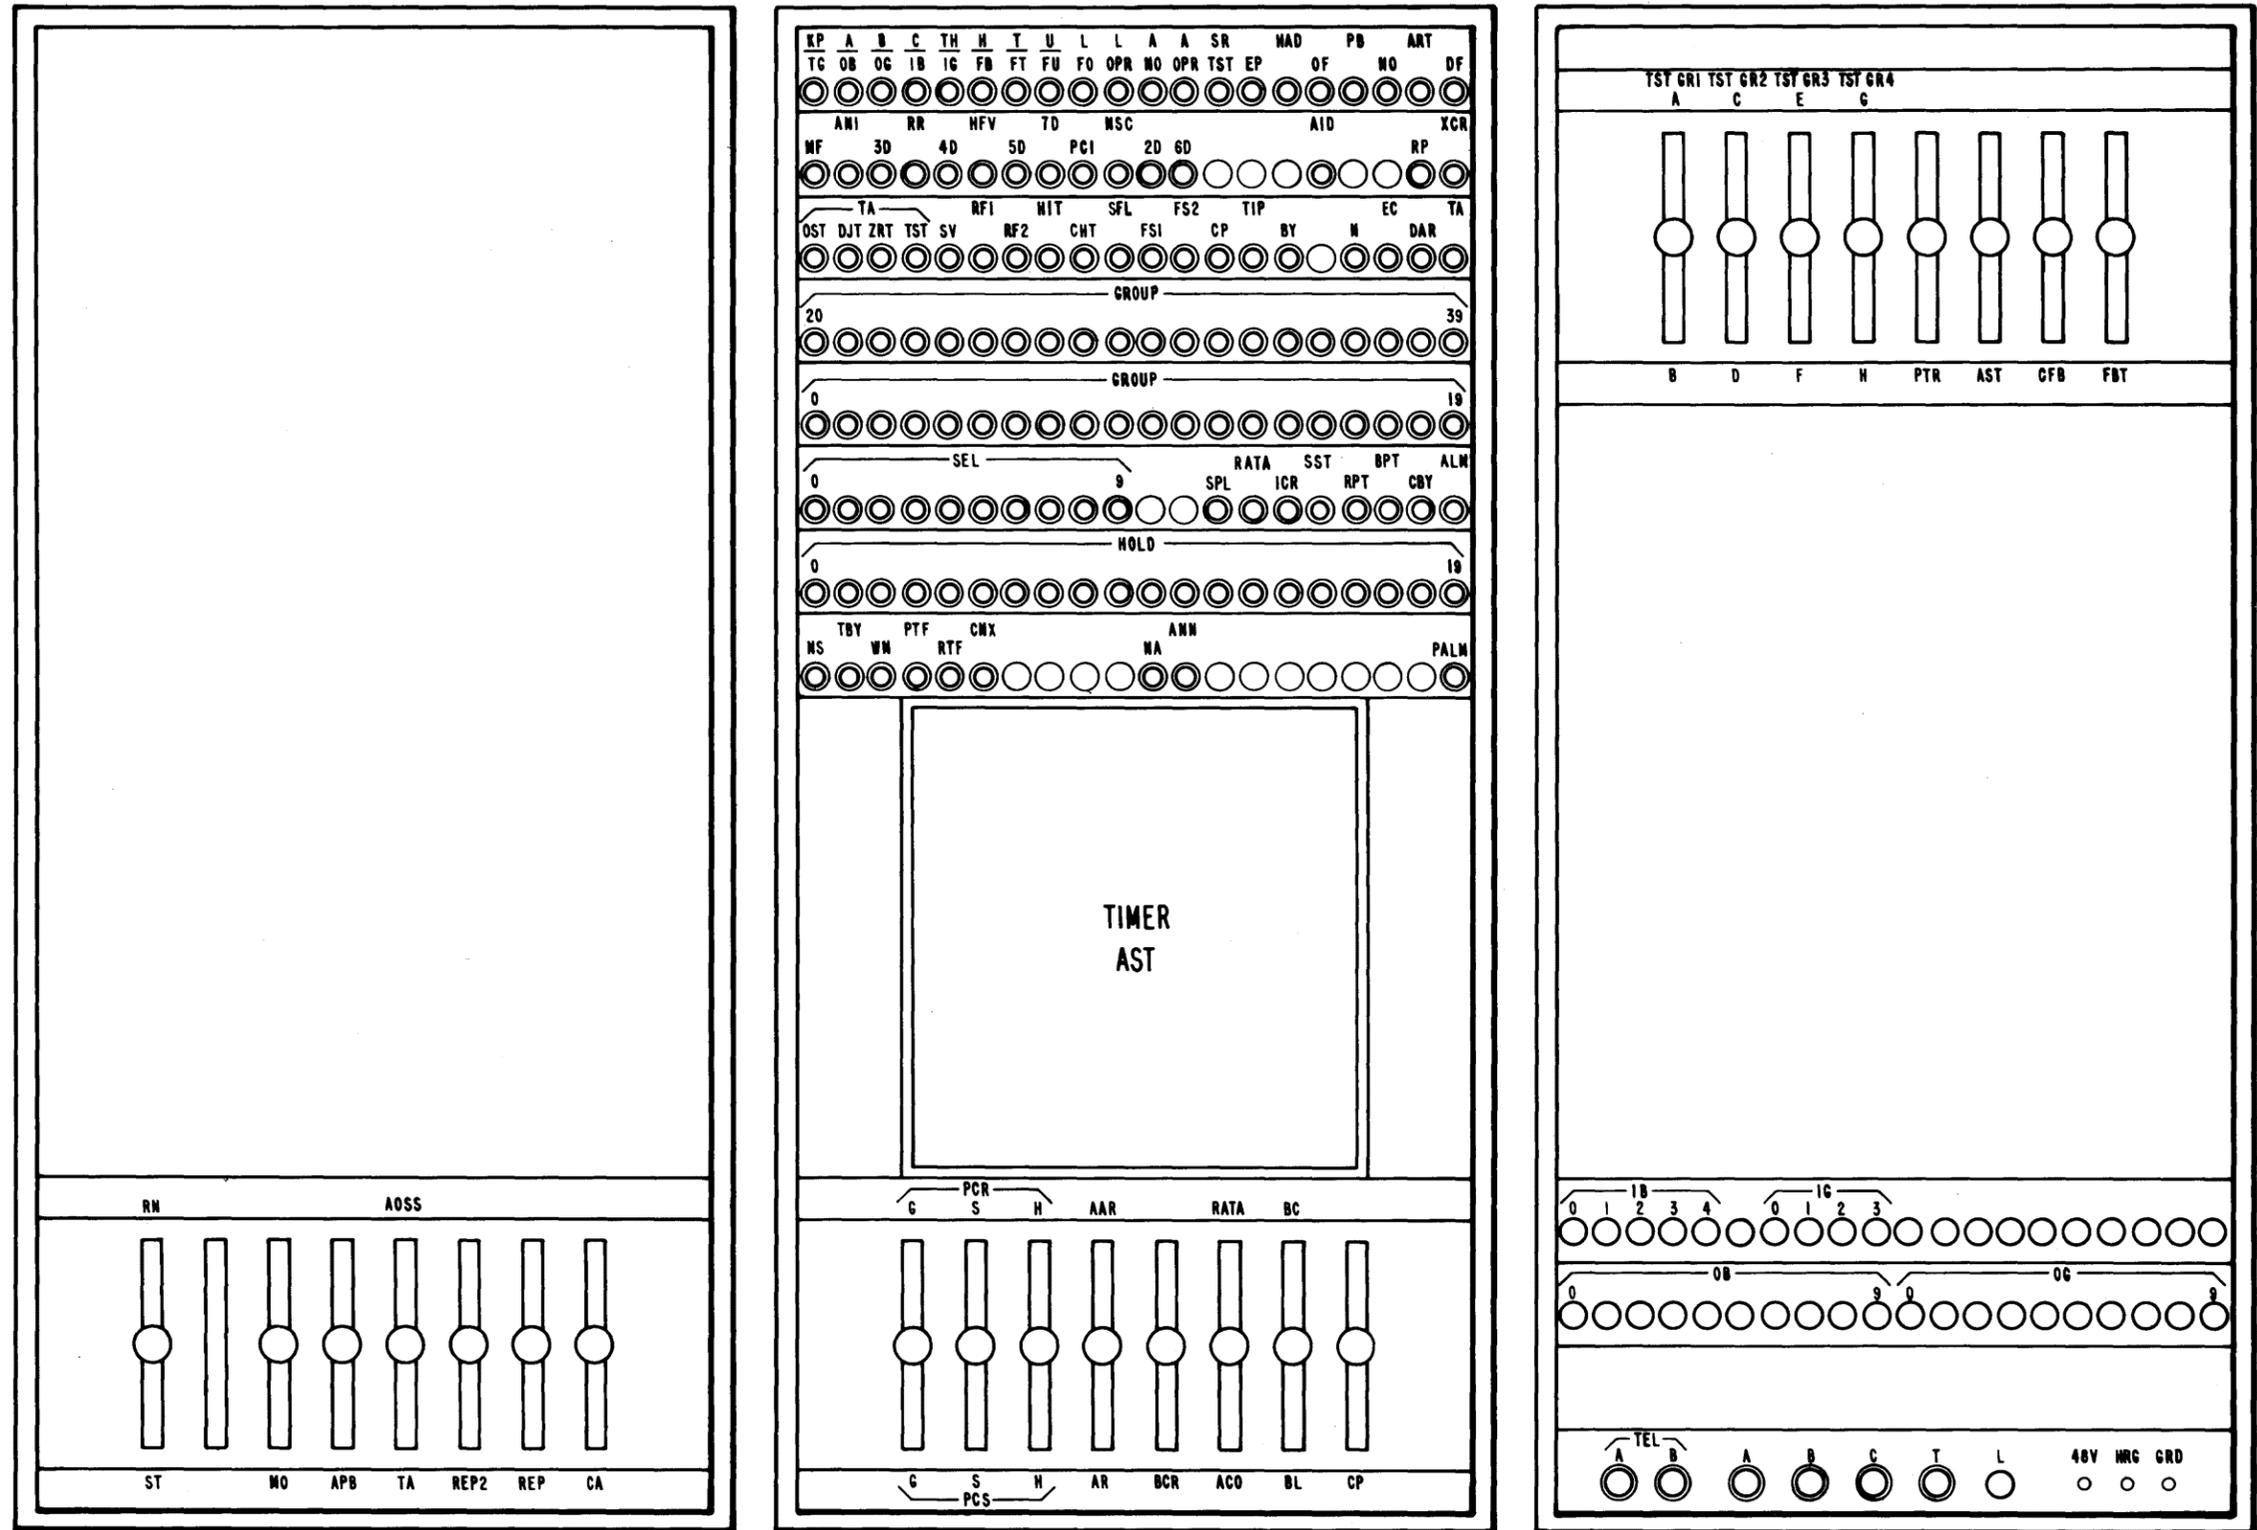

Fig. 1—ITT Key, Jack, and Lamp Panel
**1.02** This section is reissued to add references to the common systems message printer (CSMP) (which replaces the TTY as the standard recording device used by the incoming trunk test circuit), to add information to all the tables, and to revise Figure 1. Since this is a general revision, change arrows have not been used.
**4.06** Figure 1 provides a typical drawing of the ITT key, jack, and lamp panel. Configuration is controlled by the ITT options selected and will vary between offices.